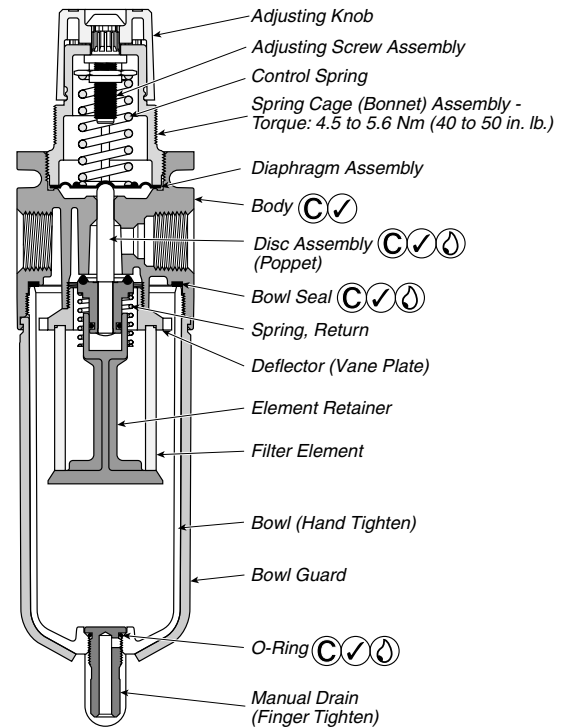

Figure 1
Servicing Filter Element - (Refer to Figure 1)
Servicing Regulator - (Refer to Figure 1)
- Install Diaphragm Assembly into Body Assembly. Assemble Bonnet Assembly onto Body and tighten per Figure 1.